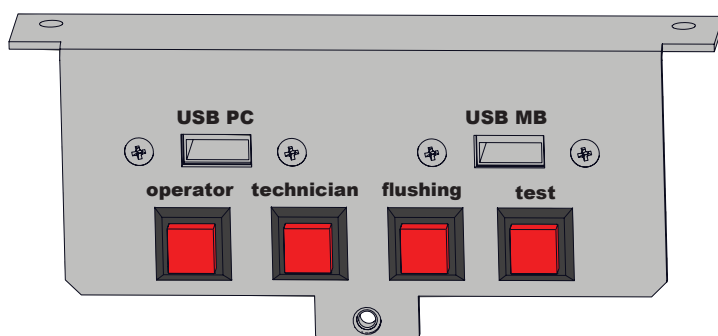

Fig.6.2
The machine has a quick access keypad, which has 4 (four) buttons and two USB-connectors. This keypad is installed on the inner side of the machine's door (see fig.6.2 and 5.2 pos.10).